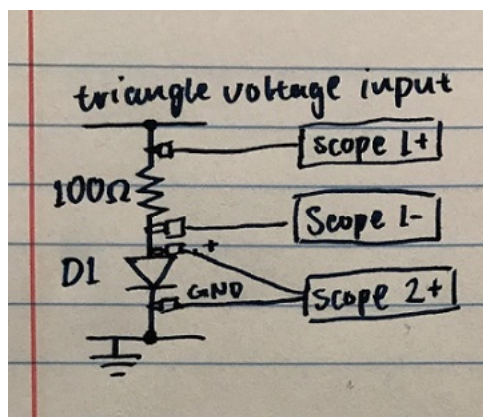

Figure 3: Circuit diagram of determining a diode's (D1) current-voltage relationship
- I have set up my circuit like the diagram in Figure 3, with a $100\ \Omega$ resistor in parallel with 1N4148 diode.